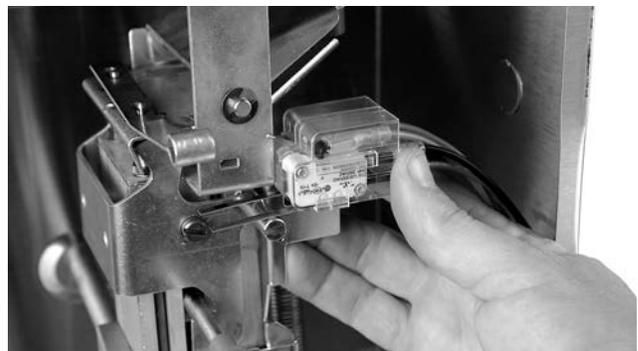

FIGURE 5-115
4. Slide switch cover onto the upper tab of the switch mounting bracket, ensuring that the tab slides into the channels on the back side of the switch cover, until the screw holes line up. See Figure 5-115.